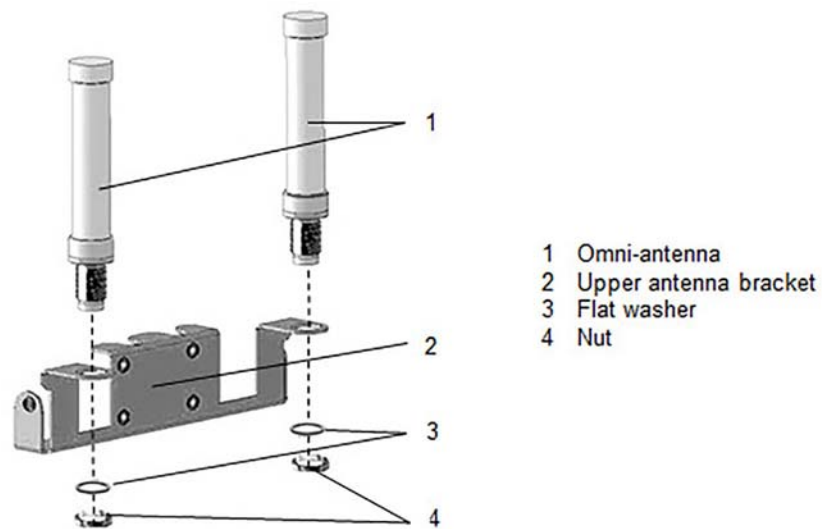

Figure 5-5 Installing omniantennas on upper antenna bracket
2. Install up to two (2) omni-antennas on the upper antenna bracket as shown in Figure 5-5 using hardware removed from the antennas in step 1.